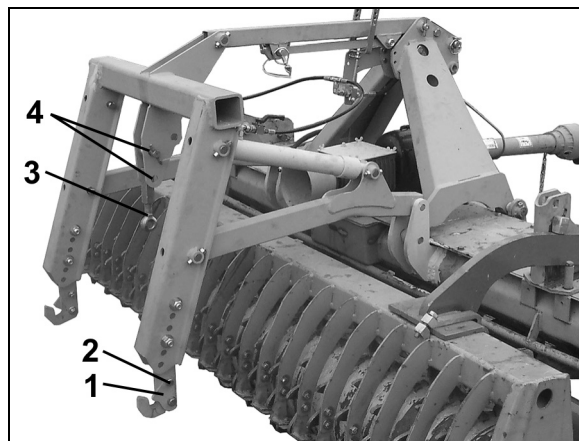

Fig. 44
2. After coupling slide the fastening plates (Fig. 44/1) onto the pins of the lower link arms and secure each fastening plate in place using pins (Fig. 44/2) and secure using lynch pins.
3. Connect the short top link (Fig. 44/3) with the upper coupling point of the seed drill and set on the lifting frame using pin \varnothing 25 x 100 mm.